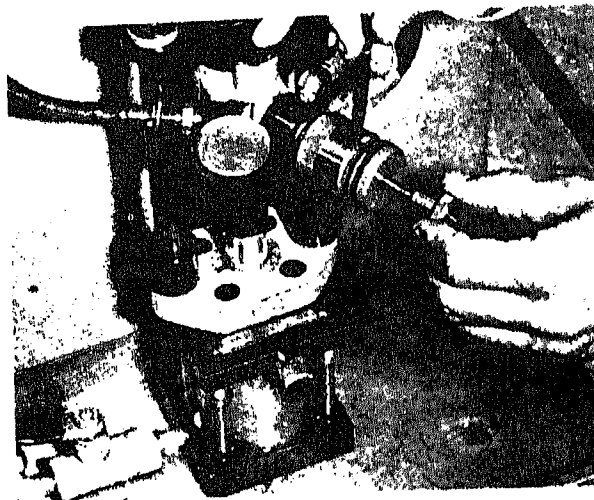

Fig. 6-1-81. Knob spacing
19. Run injector through a test cycle and check the cc delivery. If delivery is lower than specifications given in Table 6-1-9, turn the knob with indicator point until it is spaced $\frac{1}{4}$ inch from the large knob. Fig. 6-1-81.